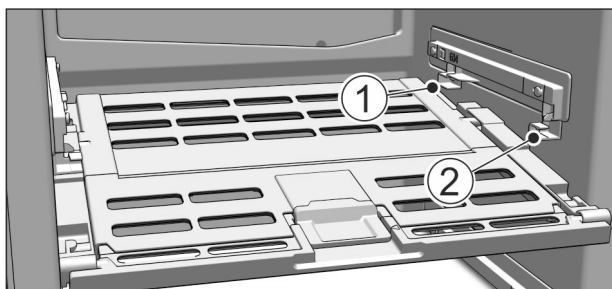

Fig. 62
- Replacing the Fruit & Vegetable safe cover: Guide the ridges on the cover into the rear brackets *Fig. 62 (1)* and click it into the front bracket *Fig. 62 (2)*.